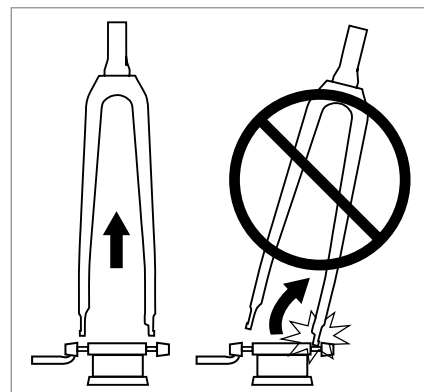

Figure 12
- To remove the bicycle, lift the fork straight up so the dropouts disengage evenly. Tilting the bicycle off the rack can damage the dropouts (Fig. 12).